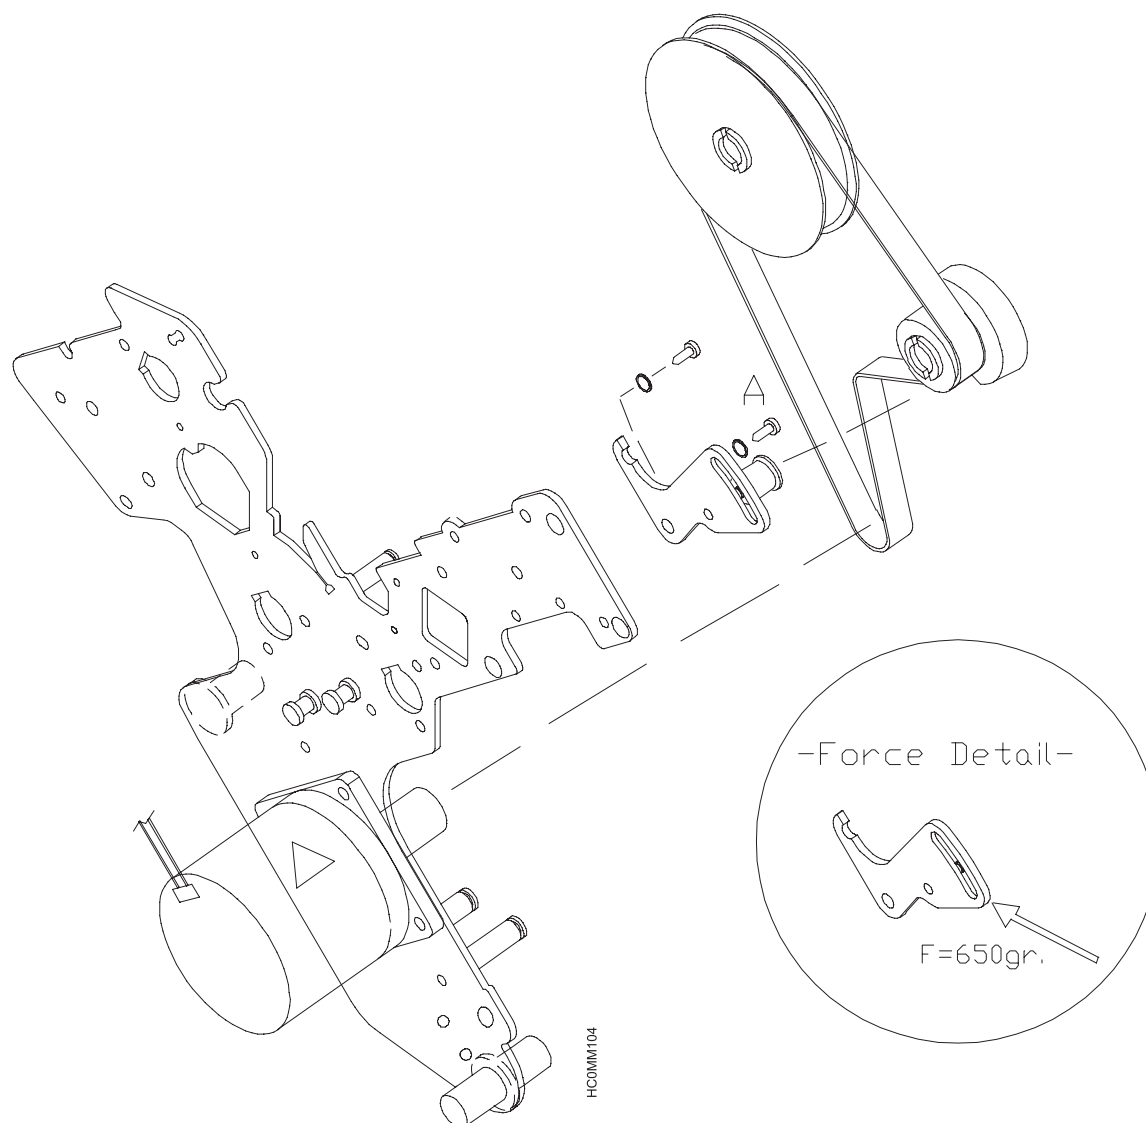

Figure 56. Paper Belt Adjustment
2. Apply the specified load on the hob of the lever with inward orientation, as shown in Figure 56 on page 202, and tighten the 2 screws to stretch the paper belt.